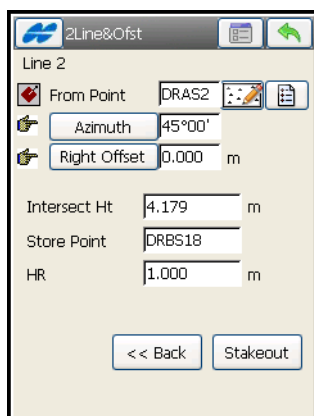

Figure 9-34. Intersection & Offsets – Line 2
3. The second Stakeout *2Line&Ofst* screen defines another line (Line 2) using a point and an azimuth, and another definition of the horizontal offset to the second parallel line (Figure 9-34 on page 9-26). The height and name of the intersection point of these two parallel lines (stakeout point) should be specified, along with the height and type of the antenna (GPS+ mode), or the height of the rod (target) (TS mode).